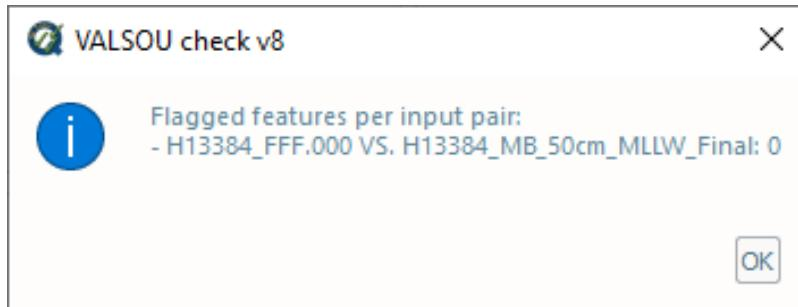

Fig. 2.52: The output message at the end of **VALSOU check v8** execution.
- After computing, the output window opens automatically, and the results are shown (Fig. 2.52). Note, the check considers all combination of grids and features files loaded. If there is no overlap found between a grid and feature file, no output is generated, and the summary will report “no overlap”.